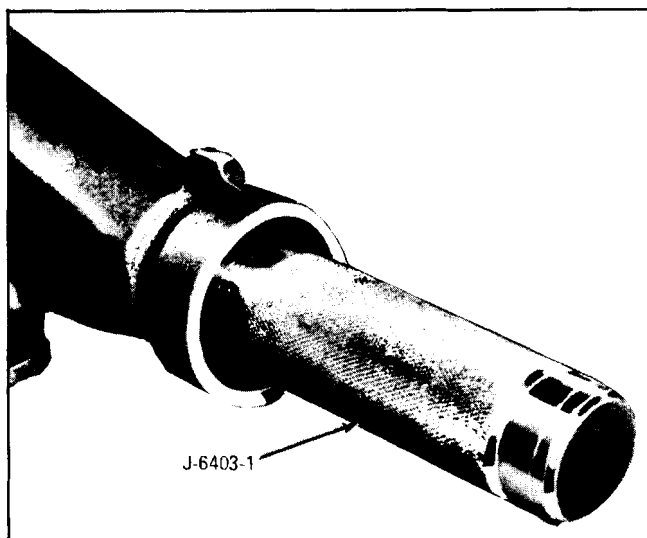

Fig. 7B-6 Installing Extension Housing Bushing
3. Attach Slide Hammer J 2619. Using hammer, pull bushing and seal from extension housing (Fig. 7B-5).